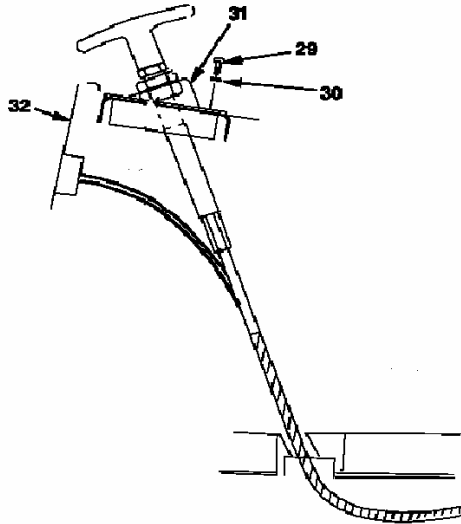

Figure 10
- (1) Cut cable and electrical wire for emergency release where they enter the lower fuselage.
- (2) Remove rear center console panel under collective.
- (3) Locate and remove cargo release wiring. (See Figure 10, Item 32.)
- (4) Remove bracket assembly (6) and reinstall screws.
(13) Remove three screws (29) and three washers (30) securing mount (31) to console (32). Remove mount and cable. (See Figure 10.)